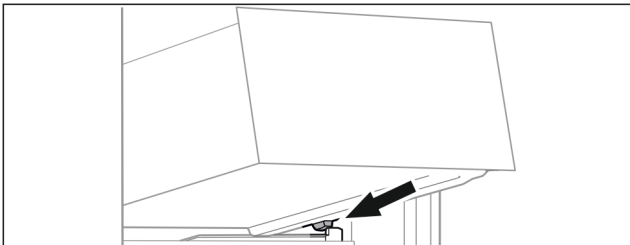

Fig. 14
- ▶ Place drawer on the moulded ribs behind the stoppers with the drawer tilted up at the front Fig. 14 ().